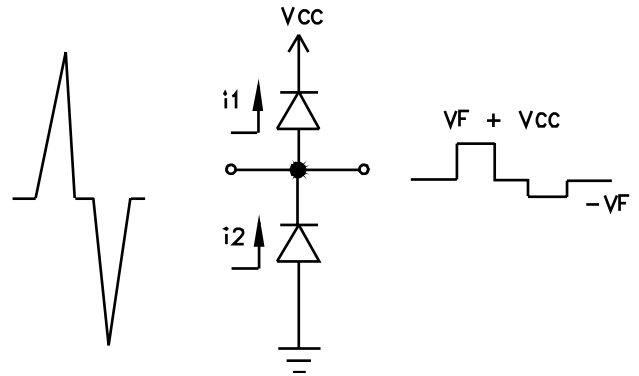

Figure 1 - “Rail-To-Rail” Protection Topology (First Approximation)
3. In applications where no positive supply reference is available, or complete supply isolation is desired, the internal TVS may be used as the reference. In this case, pin 5 is not connected. The steering diodes will begin to conduct when the voltage on the protected line exceeds the working voltage of the TVS (plus one diode drop). ESD Protection With RLST236A054LV. RLST236A054LV are optimized for ESD protection using the rail-to-rail topology. Along with good board layout, these devices virtually eliminate the disadvantages of using discrete components to implement this topology. Consider the situation shown in Figure 1 where discrete diodes or diode arrays are configured for rail-to-rail protection on a high speed line. During positive duration ESD events, the top diode will be forward biased when the voltage on the protected line exceeds